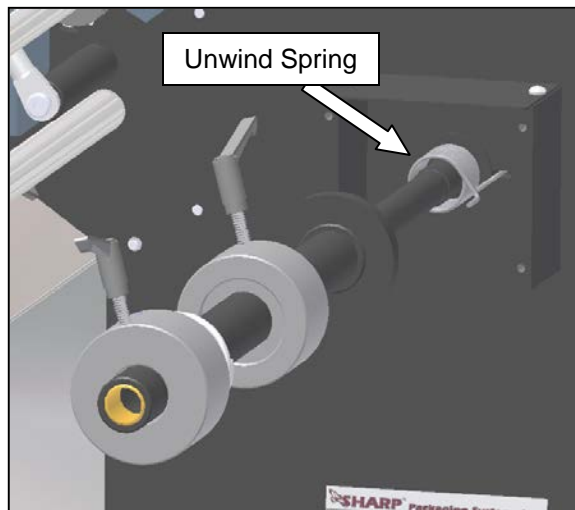

Figure 3-371. Removing the Unwind Spring
1. Remove the guards identified in Figure 3-371.
3. With the unwind bearing plate loose, slide the unwind shaft off of the machine. This will expose the unwind spring which should now be removed (Figure 3-371).